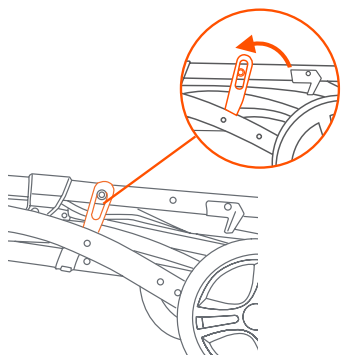

Fig. 8c
- Ensure to use the fold latch to lock the stroller frame securely (Fig. 8c).